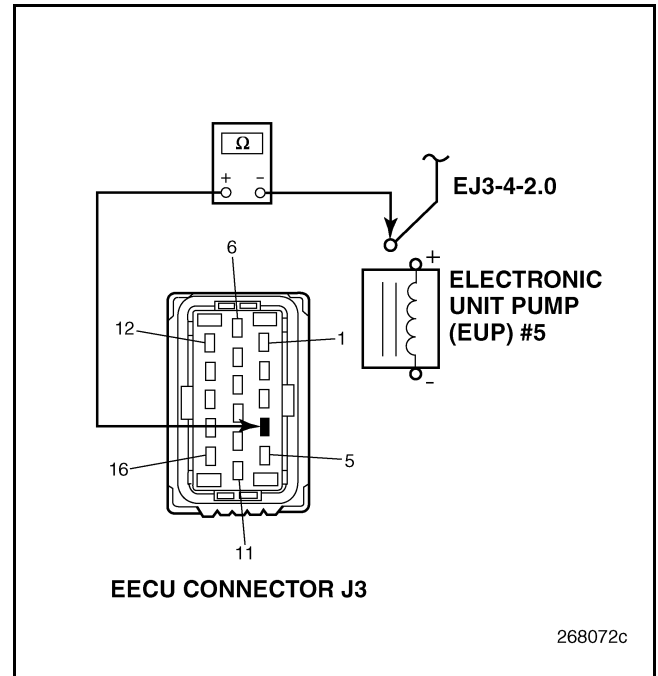

Figure 778
4. Check for continuity between EECU harness connector J3 pin 4 and circuit EJ3-4-2.0 at EUP Solenoid 5 (see Figure 778).